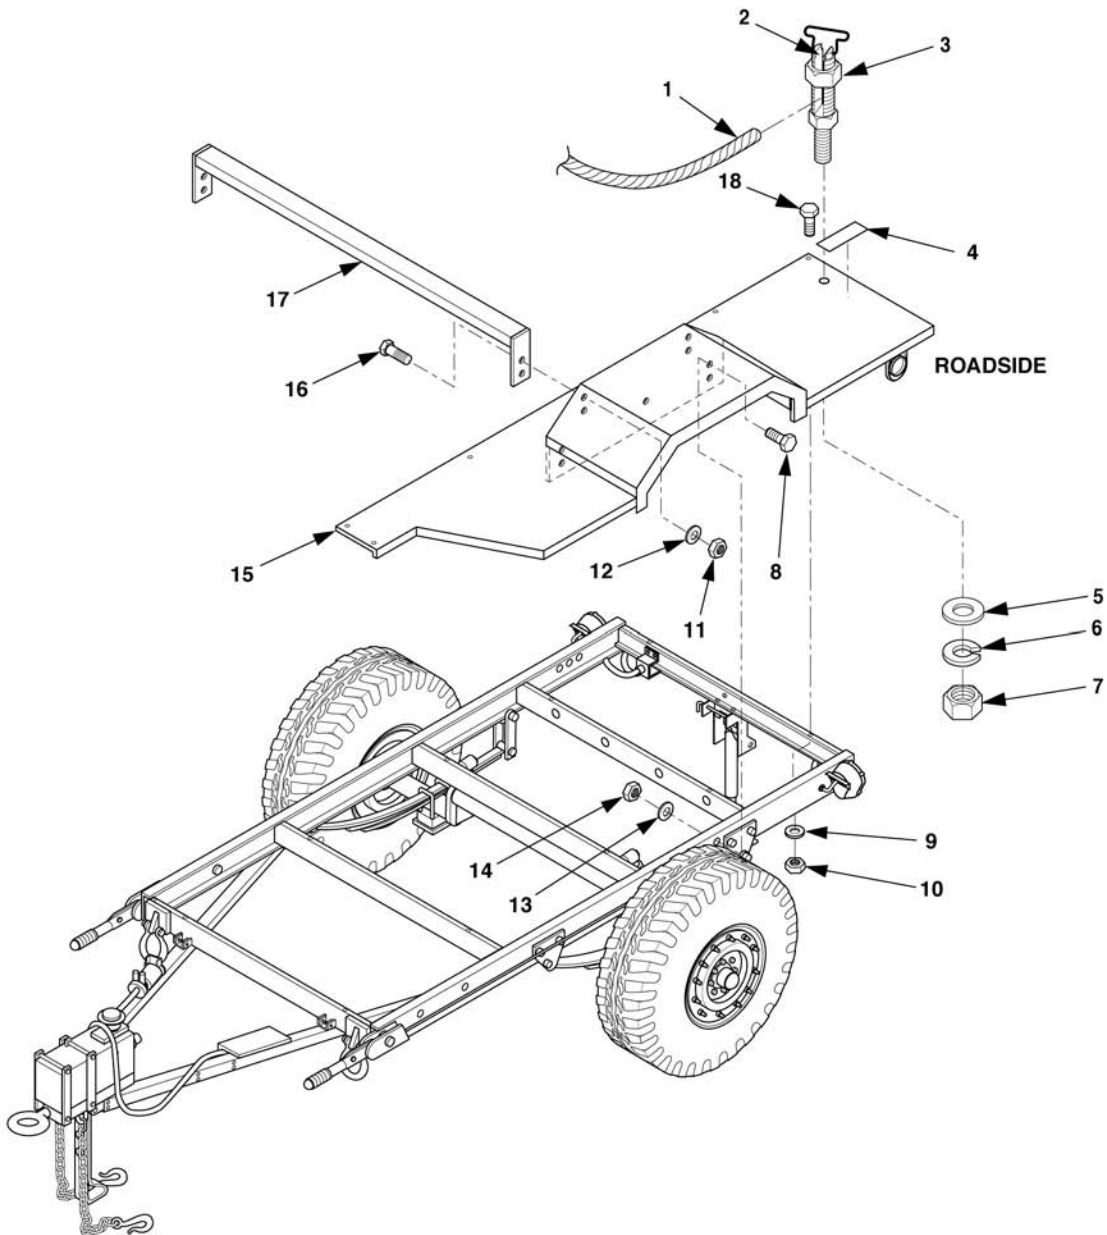

Figure 4-22. AN/MJQ-42/43 Fender, Roadside/Fender, Curbside Maintenance.
- (1) Remove ground cable (1, Figure 4-22) from ground terminal (2) by loosening nut (3).
- (2) Remove nut (7), lock washer (6) and flat washer (5).
- (3) Remove rivets from ground terminal (4) data plate.
1. Position fender (15, Figure 4-22) on trailer chassis and loosely install five bolts (18), flat washers (9), and five self-locking nuts (10).
2. Install and tighten bolts (16), flat washers (12), and self-locking nuts (11), with cross brace (17).
3. Install and tighten bolts (8), flat washers (13), and self-locking nuts (14).
4. Tighten five self-locking nuts (18).